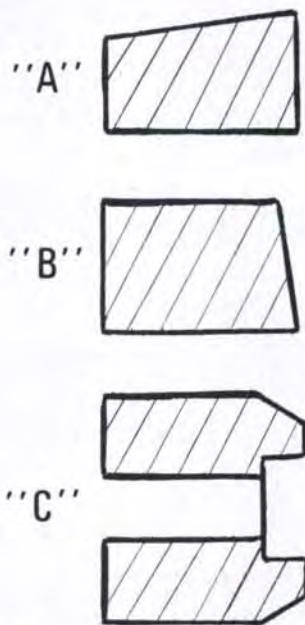

Fig. 37—Cross-sectional view of piston rings of type used in Models L210 and L260. Refer to paragraph 33 for application.
Piston ring end gap should be 0.3-0.5 mm (0.012-0.020 inch) with a maximum wear limit of 1.5 mm (0.060 inch). The half-keystone top ring (all models) and second compression ring (Model L260) have a tapered top land as shown in Fig. 37, and side clearance cannot be measured. Taper face compression rings (B) used in second groove on Model L210 or third groove on Model L260 should have a side clearance in groove of 0.065-0.09 mm (0.0025-0.0035 inch). Ring must be installed with contact area toward bottom as shown in Fig. 37.